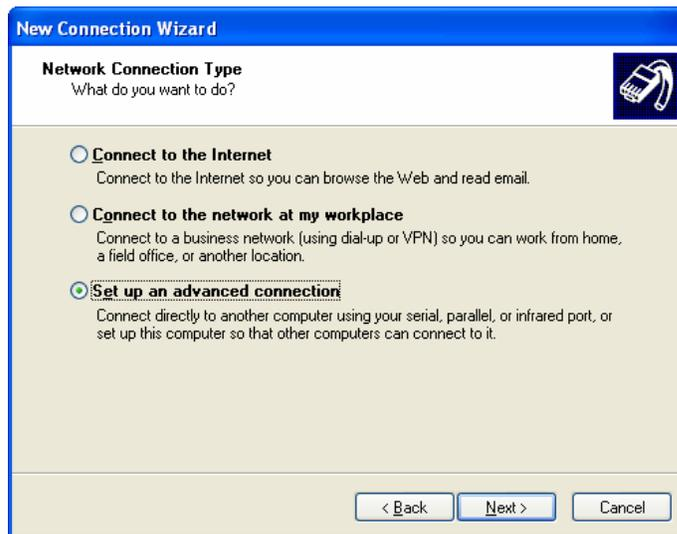

Figure 63: Network Connection Type, Direct Null-Modem
8. Go through the Network Connection creation (see Figure 63) and select **Set up an advanced connection** and click Next. The system prompts you to choose the role of the computer within the connection.